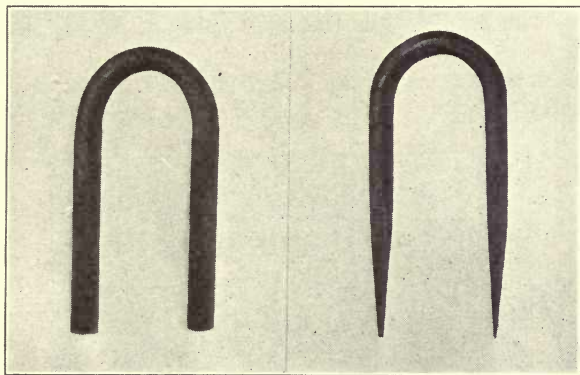

FIG. 15. SQUARE AND FLAT POINT STAPLES.
3. Bend at the center over the horn of the anvil as you did with the ring. Be sure to bend the points so that they take the position shown in Fig. 15 and Plate 2. Remember the two sides are just 1 inch apart all the way up.
4. Check up on your dimensions with the drawing and blacken. Fig. 15 shows the completed staple.